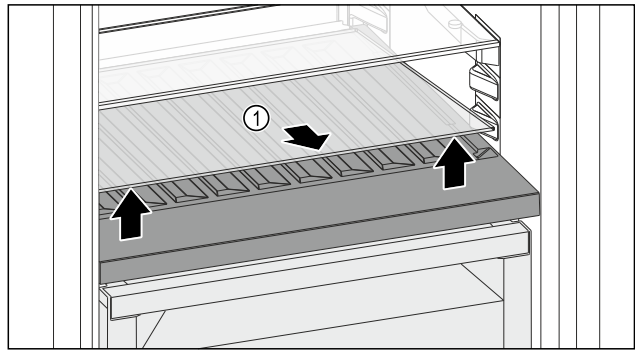

Fig. 177
- ▶ Lift the glass shelf Fig. 177 (1) at the front and remove.
- ▶ Store the glass shelf Fig. 177 (1) in a safe place outside the appliance.
- ▶ Insert the glass shelf (2) under the variable bottle rack.